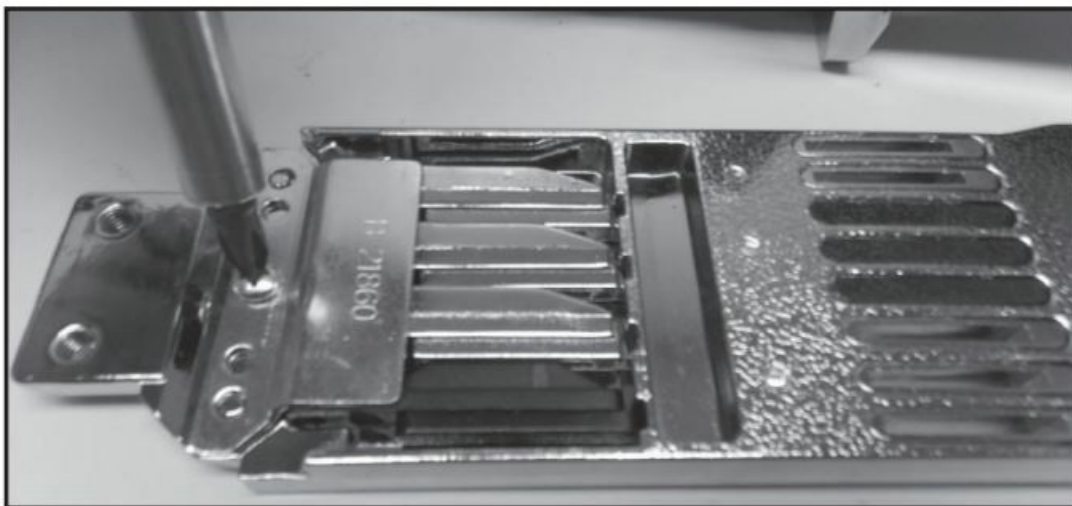

FIGURE 10
10. Turn the slide tray over and load all unused functional or blank inserts into the extra insert storage tray and reinstall the extra insert retainer with the screw previously removed in step 5. See Figure 10.